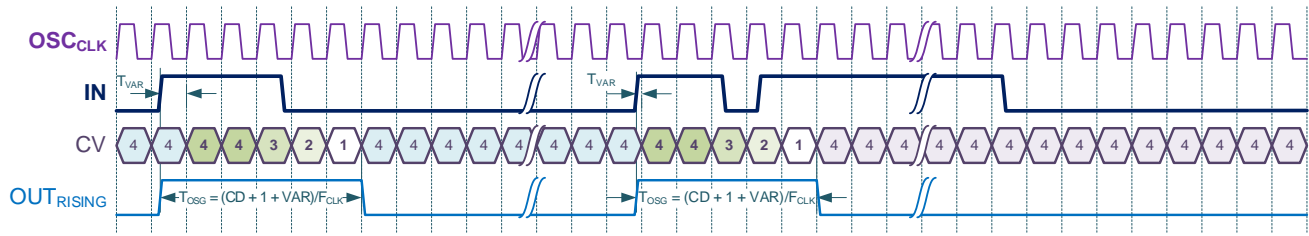
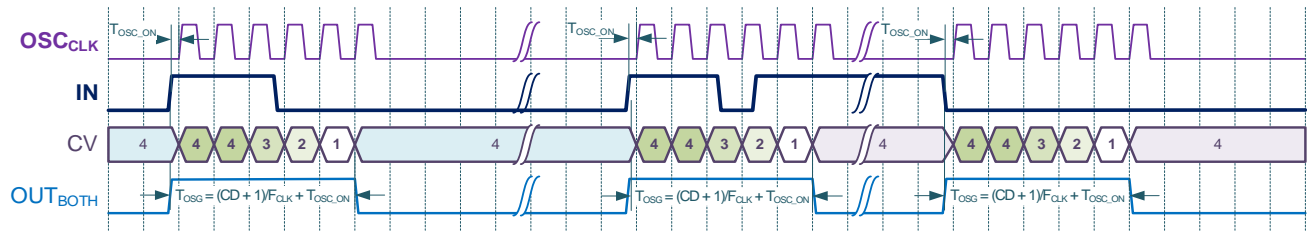

Figure 9.14. One-Shot Generator Mode Timing Diagram (Rising Edge, Forced OSC)
Figure 9.19. One-Shot Generator Mode Timing Diagram (Both Edge, Auto OSC)
In One-Shot mode, this macrocell generates a high-level pulse with a set width when detecting the edge event, which is selectable by the registers on its IN input. The pulse width is determined by the Control Data, input clock signal, and selected divider value. Any incoming edges are ignored during pulse width generation. The timing diagrams of this mode are shown in Figure 9.14...Figure 9.19.
- One Shot (Figure 9.14...Figure 9.19)